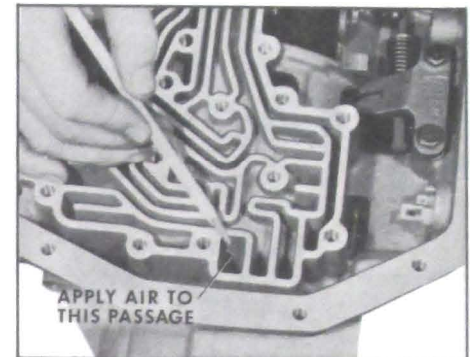

Figure 5-155
7. Place transmission in a horizontal position and remove reverse clutch piston with compressed air. As air is applied to the rear surface of the piston, it will pop out far enough so it can be removed. Insert air nozzle to rear of case as shown in figure. See Figure 5-155.